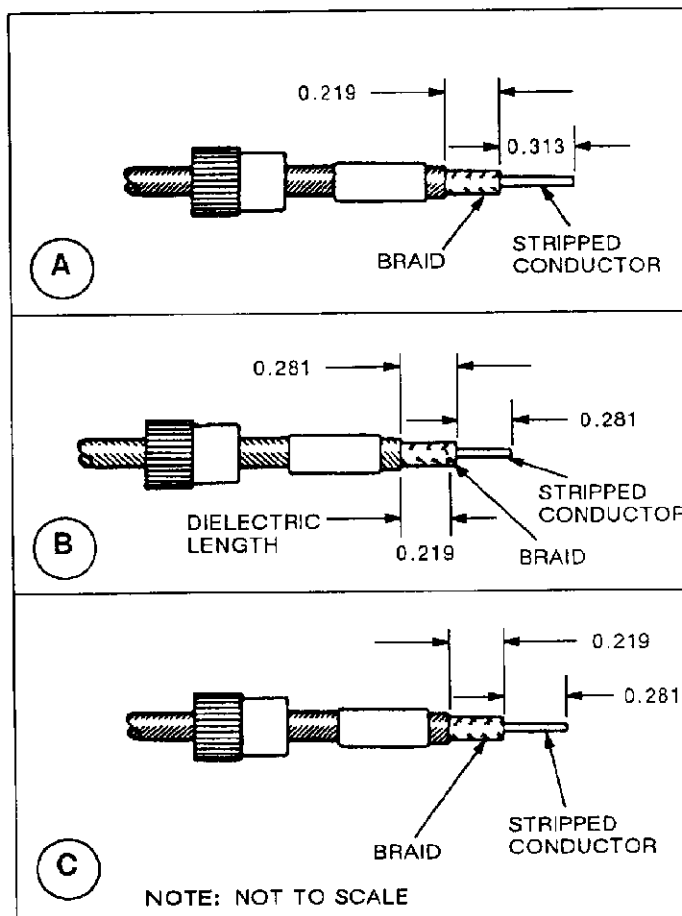

Fig. 3
2. Find the figure reference under the Cable Strip Length column in Figure 1 for the specific connector and cable being used. Then strip cable to dimensions indicated under the appropriate section in Figure 3.